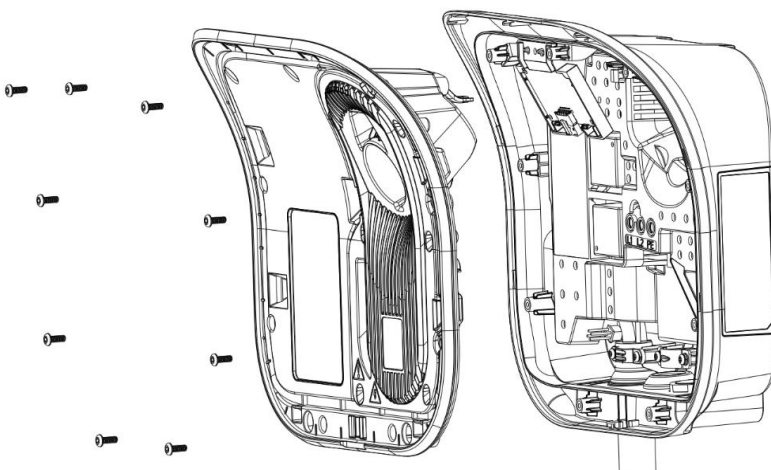
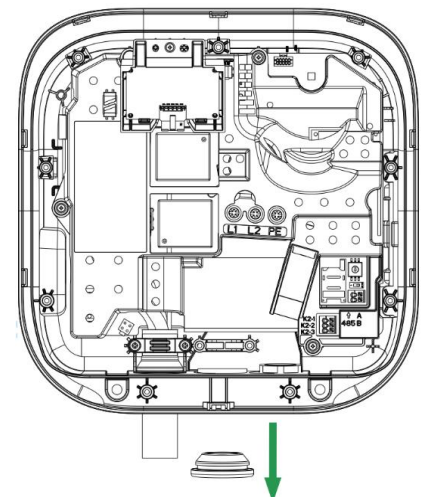

Fig. 4-8 Remove the front cover
Fig. 4-9 Remove the inlet hole plug
- Remove the 9 screws connecting the front cover and the rear cover, then open the front cover and prepare for wiring, as shown in Fig. 4-8. Remove the inlet hole plug before wiring, as shown in Fig. 4-9. (Please read the installation tips on the protective cover sticker carefully)